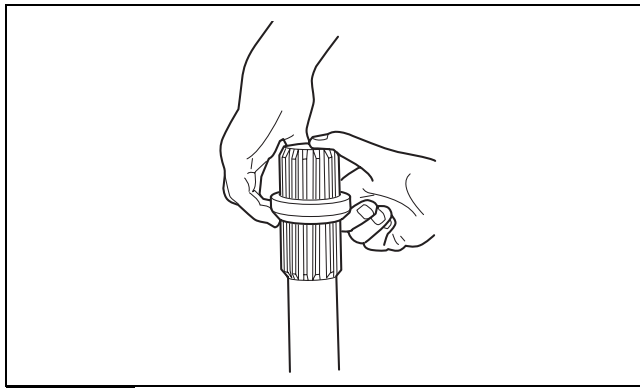

Figure 8.19
3. Remove the seal from the slip shaft. Figure 8.19.